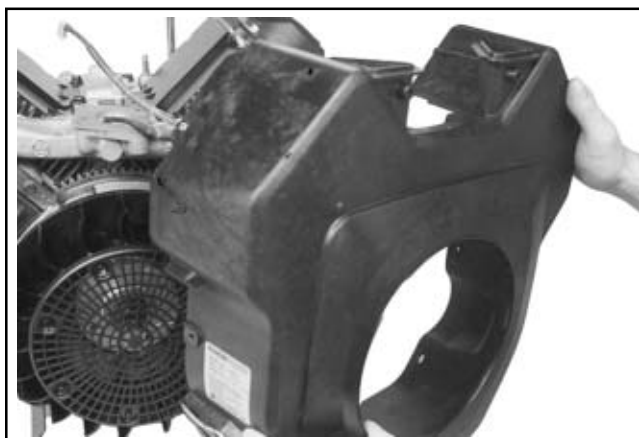

Figure 9-33. Removing Blower Housing.
8. Remove the remaining hex. flange screws and detach the blower housing. See Figure 9-33.